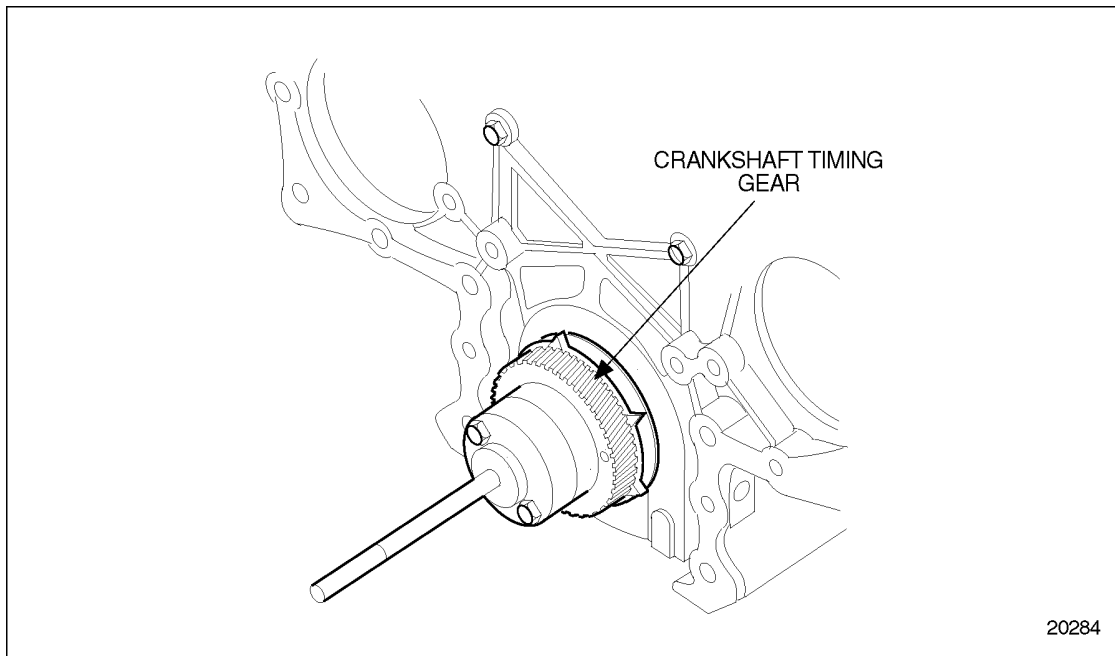

Figure 1-364 **Crankshaft Timing Gear Indexing**
5. Index the keyway of the crankshaft timing gear with the Woodruff key in the crankshaft. Tap the gear with a plastic hammer or fiber mallet, to ensure that the key is started in the keyway. See Figure 1-364.